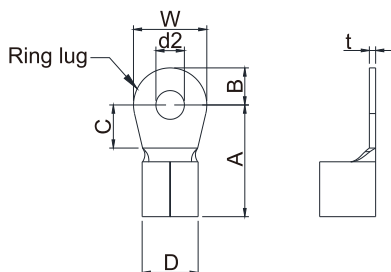
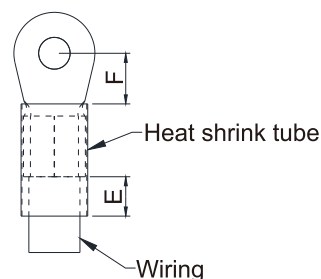

Figure 3-9
Figure 3-10
- Use the specified ring lug for main circuit terminal wiring. See Figure 3-9 and Figure 3-10 for ring lug specifications. For other types of wiring, use the wires that comply with the local regulations.
- After crimping the wire to the ring lug (must be UL approved), UL and CSA approved recognized component (YDPU2/8), install heat shrink tube rated at a minimum of 600 V_{AC} insulation over the live part. Refer to Figure 3-10.